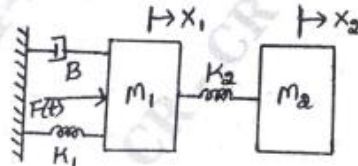

Fig Q1(c) (08 Marks)
- c. For the mechanical system shown in Fig Q1(c), write the differential equations of performance. Find write loop equations based on Force - Voltage analogy and write electrical analogous circuit.